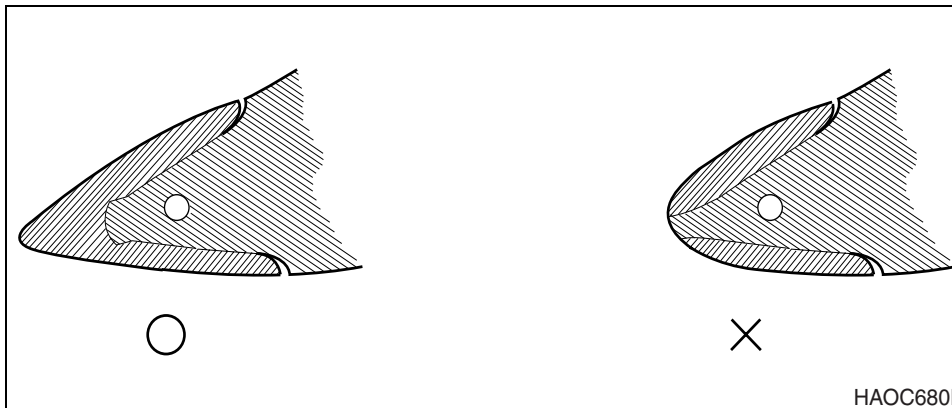

Figure 4
1. On a routine basis, inspect the bucket teeth to make sure that tooth wear or breakage has not developed. Do not allow the replaceable bucket teeth to wear down to the point that the bucket adapter is exposed. See Figure 4.
1. On a routine basis, inspect bucket teeth to make sure that tooth wear or breakage has not developed. Do not allow replaceable bucket teeth to wear down to a point that bucket adapter is exposed. See Figure 4.